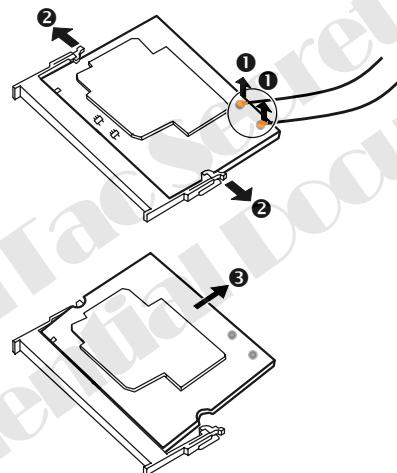

Figure 2-13 Remove the Wireless card
3. Disconnect the wireless card's antennae first (①). Then pull the retaining clips outwards (②) and remove the wireless card (③). (Figure 2-13)